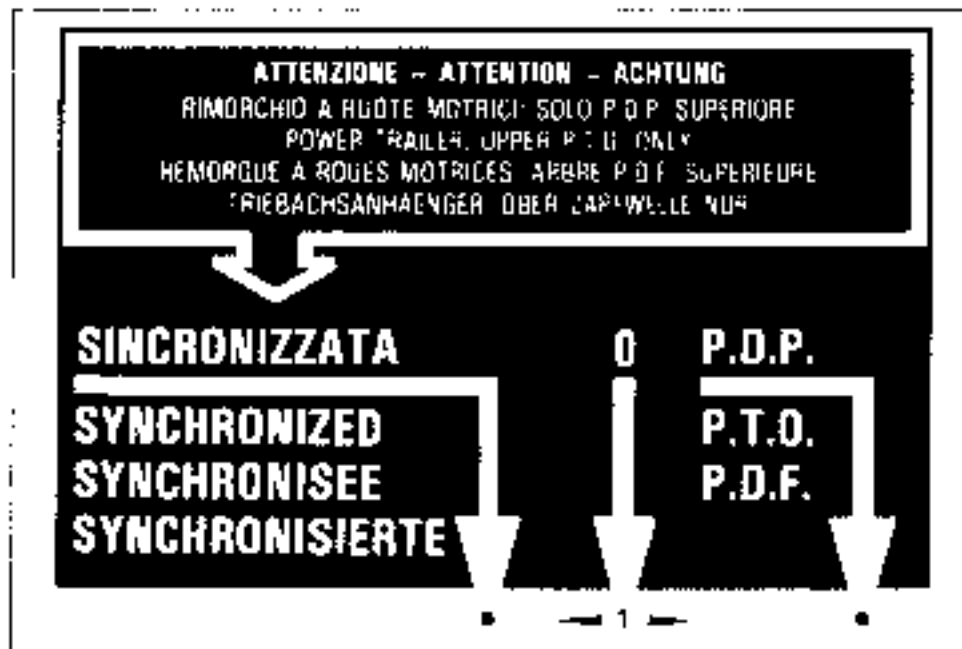

Fig. 8/a - Blvd B/a
The top power take-off is a device used for connecting the tractor to the tractor-mounted take-off. A tractor-mounted take-off is provided for the serial use in the different cases of the tractor and Fig. 8 a.
Ein Gerät zur Verbindung des Traktors mit dem Traktor-angelegten Power Take-Off (siehe Abb. 8 a).
The tractor is connected to the implement through the power transmission system. The power take-off is the take-off device which is supplied by the tractor and is shown in Fig. 8 a.
1) **Connection of implements**, working as shown in the drawings under item 1 and 2 and under Fig. 8 a, part 1 to 3. The power take-off is connected to the tractor and is shown in Fig. 8 a.
2) **Connection of driving-wheeled trailers** is shown in the drawings under item 3 and under Fig. 8 a, part 1 to 3. The driving-wheeled trailer is shown in Fig. 8 a, part 1 to 3. The tractor is shown in Fig. 8 a, part 1 to 3.
Un prise de force dessus est le dispositif qui permet de relier le tracteur à la prise de force motrice. Un prise de force dessus est prévu pour permettre la section des divers engins de travail, voir fig. 8 a.